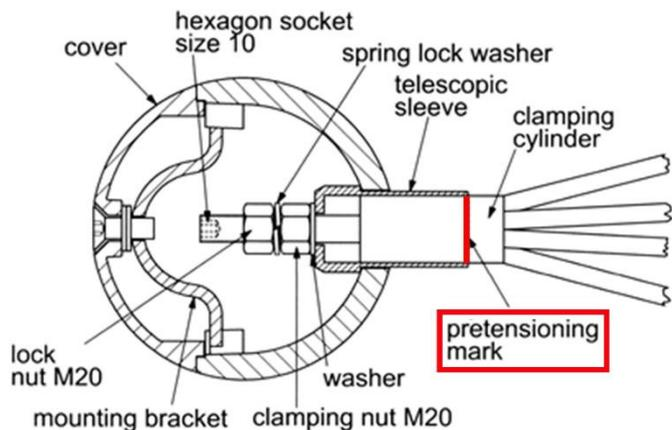
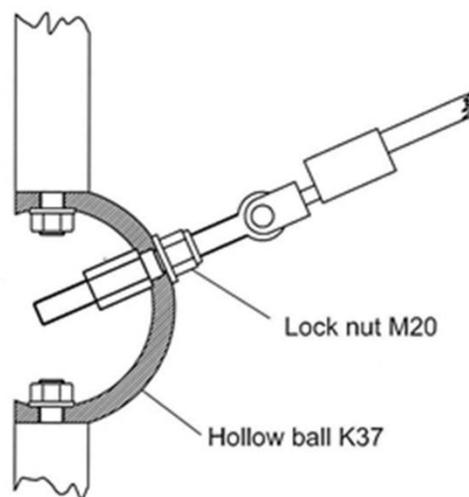

Fig. 12 – K36
Fig. 11 – K37
This is followed by the tensioning screws for the hollow balls **K37**, with the eyebolt attached to the clevises being inserted into the hollow ball and only held loosely initially from inside using the tensioning nut provided (**Fig. 11**).
The pressed-on threaded bolts are first tightened firmly with the M20 nuts in the hollow balls **K35**. Actual tensioning of the spacenet begins at the hollow balls **K37**, with the tensioning nuts on the eyebolts being screwed tightly up to the locknut (**Fig. 11**) using the special spanner provided.
The tensioning system is then tensioned on the hollow balls **K36** up to the pretension marking (**Fig. 12**). Tensioning of the spacenet should ultimately be uniformly strong.
Following tensioning, the tensioning nuts must be locked on all hollow balls **K36** using the locknuts (M20, 32 mm A/F) and spring washers provided. The M20 threaded bolt should be held with an Allen key (10 mm A/F) when tightening the locknut (**Fig. 12**). The locknuts (30 mm A/F) (**Fig. 11**) must be checked again on the hollow balls **K37** to ensure they are firmly fitted. Finally, all hollow balls **K35S, K36, K37, K38 and K39** should be sealed by screwing the balls together with the prepared caps using a bracket screw connection (**Fig. 12**).
Retighten for the first time after one to two weeks of use. Retightening is realised with the M 20 tensioning nuts in the hollow balls. The balls **K37** are first retightened. Following removal of the cap using a 10 mm Allen key and loosening of the locknut (M20, 30 mm A/F) on the exterior of the hollow ball (**Fig. 11**), the tensioning nut (30 mm A/F) inside is retightened using a socket spanner.
Always tighten the locknuts firmly again following retightening. Retightening then continues on the knots K36 and should be realised evenly. Following removal of the cap, the locknut (M20, 32 mm A/F) inside is loosened and the tensioning nut (M20, 32 mm A/F) retightened **beyond the pretension marking (Fig. 12)** using the special socket spanner provided. Always tighten the tensioning nuts on the knots K36 again with the locknuts following retightening. Please note the correct position of the spring washer between both nuts. The M20 threaded bolt can be held with an Allen key (10 mm A/F) when loosening and tightening the (M20, 32 mm A/F) tensioning and locknuts (**Fig. 12**). The opened hollow balls are then sealed again with the caps. Please ensure that the caps are positioned uniformly so that our company logo is legible. Thank you very much!
Check that the locknuts (**Fig. 11**) are firmly fitted on the hollow balls **K37**.